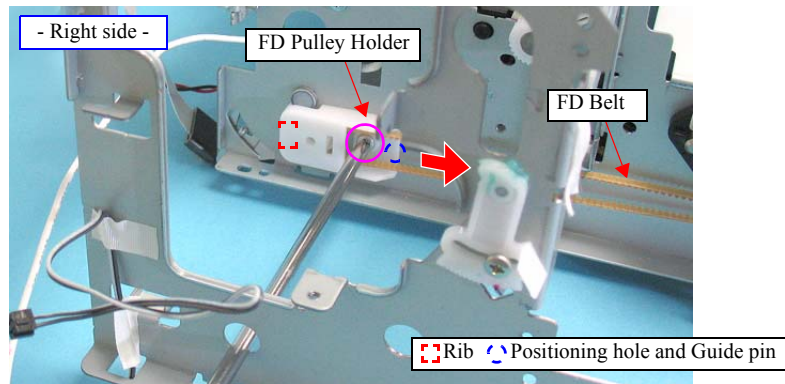

Figure 4-195. Removing the Rear Frame Assy (2)
- When installing the FD Pulley Holder, match the guide pin and rib of the FD Pulley Holder with the positioning hole and edge of the Main Frame as shown in Figure.4-195.